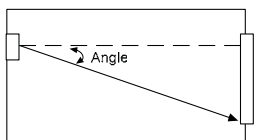

Fig 2: Angle between Wireless VITRON and glass
Verify that the distance between the Wireless VITRON and the furthest point on the protected glass does not exceed the maximum specified range taking into account the reduced range due to angle (see Fig 2).
- Side wall – mounted** (not recommended due to the fact that the Wireless VITRON is not opposite the glass - see range versus angle diagram (Fig 2). Test detection carefully at both ends of glass using RG-65 Tester (see fig. 6).